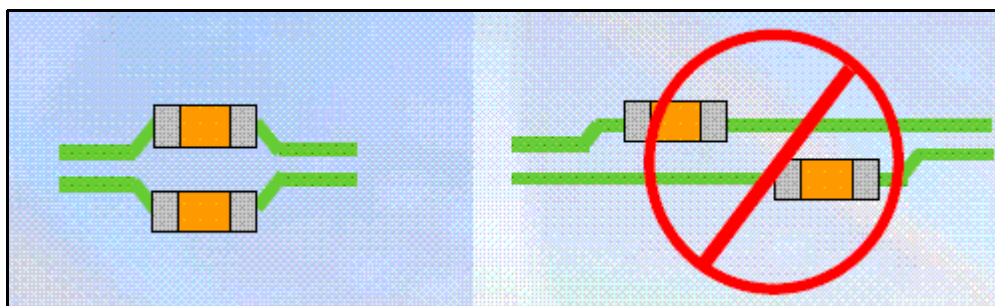

Figure 1 AC Decoupling Capacitor Layout
- AC coupling capacitors are associated with the Tx differential pairs and should be located symmetrically on the top or bottom layer between the PES24N3 and the PCIe connectors, as shown to Figure 1. Values between 75nF and 200nF are appropriate, per the PCI Express specification. For example, 100nF capacitors are used on the PES24N3 evaluation board.